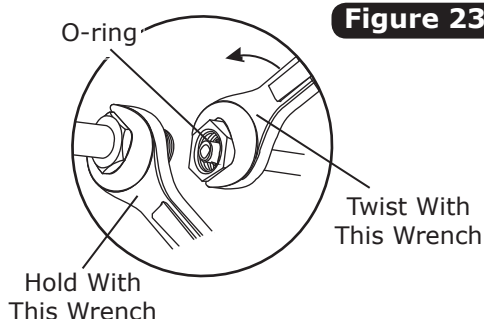

**Figure 22**
1. Apply a 1/4" bead of silicone around the mating surface of the firewall cap as shown in Figure 22, below.
2. Pass the lines through the firewall cap, and secure the cap using (3) #10 x 1/2" sheet metal screws (See Figure 22, below).